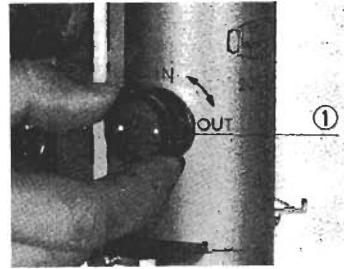

Fig. 5
1. To insert the Bertrand lens into the light path, turn the Bertrand lens control knob ① to position "IN." (Fig. 5)